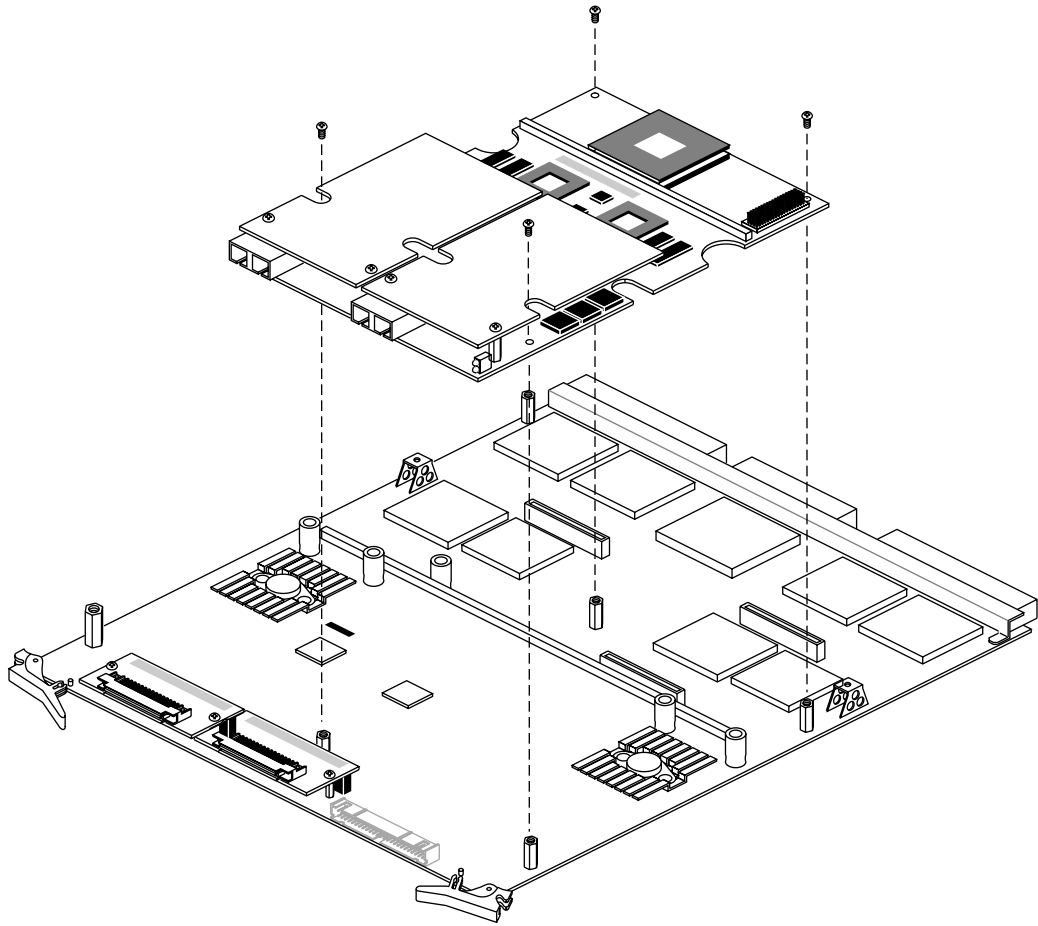

Figure 2-4 Connecting FDDIXPress Mezzanine to the IO4 (SAS Board Shown)
6. Carefully remove the IO4 board chosen to hold the FDDIXPress board, and position it on a flat antistatic work surface, as illustrated in Figure 2-4.
7. Place the FDDIXPress mezzanine board onto the selected IO4 mezzanine position so that the connector on the bottom of the motherboard matches the receptacle on the IO4 board and the standoffs match the holes on the FDDIXPress board (see Figure 2-4).
6. Carefully, remove the IO4 board and position it on a flat antistatic work surface, as illustrated in Figure 2-4.